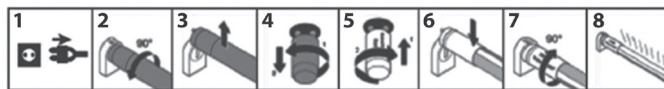

Fig. 1
- **In the event of a light fixture with a choke coil**, to install the LED tube it is sufficient to simply remove the standard fluorescent light tube, remove the light tube starter and in its place, simply install the supplied "LED driver" and then just install the LED tube (this form of installation can be performed by any user themselves without electrical qualifications), see fig. 1.
- On these types of light fixtures, it is possible to directly replace a standard fluorescent light tube with an LED tube. Simply remove the fluorescent tube starter with the electrical power disconnected and replace it with the supplied „LED driver“ according to the steps described in steps 1 to 8 in fig. 1. This replacement may be performed by a person without the respective electrical qualifications.
Description of steps 1-8 in fig. 1